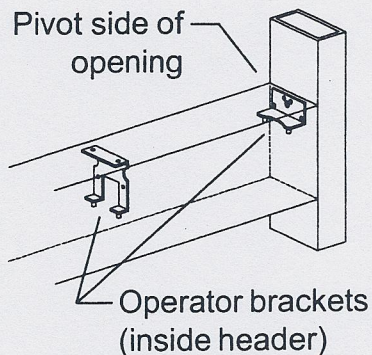
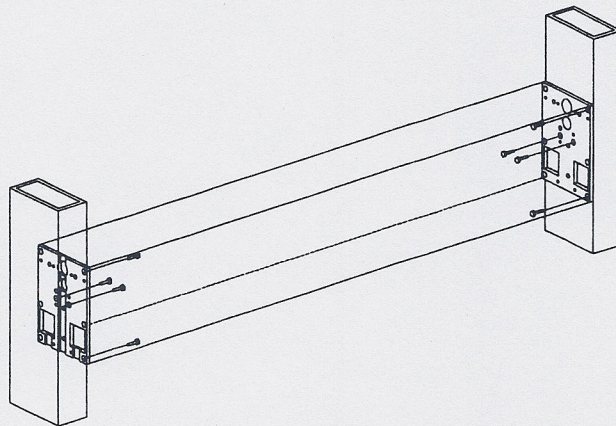

Figure 2-1
Figure 2-2
- 2.2. Align the header with the jamb tubes. For headers with a single operator, position the end of the header containing the operator brackets near the pivot side of the opening (Figure 2-1). Secure the header to the jamb tubes with four 1/4-20 hex head screws at each end (Figure 2-2).